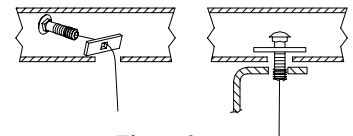

Figure 3.
- Feed the second spacer and bolt thru the enlarged hole and back out as shown in Figure 3. Leave the pullwire attached. Repeat on both frame rails.